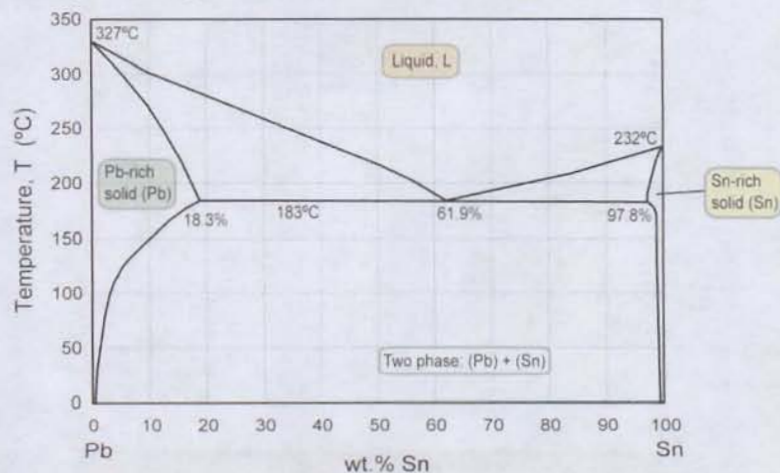

Figure 2: Pb-Sn phase diagram
7. Use the Pb-Sn diagram in Figure 2 to answer the following questions.
9. Using Figure 2, consider the Pb-Sn alloy with composition  $W_{Sn} = 25\%$ . What are the approximate proportions by weight of the phases identified in Question 7, at  $250^\circ\text{C}$ ,  $200^\circ\text{C}$  and  $150^\circ\text{C}$ ?